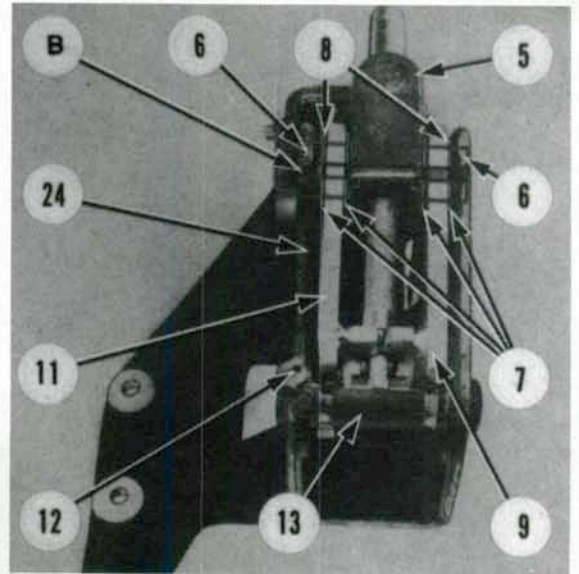
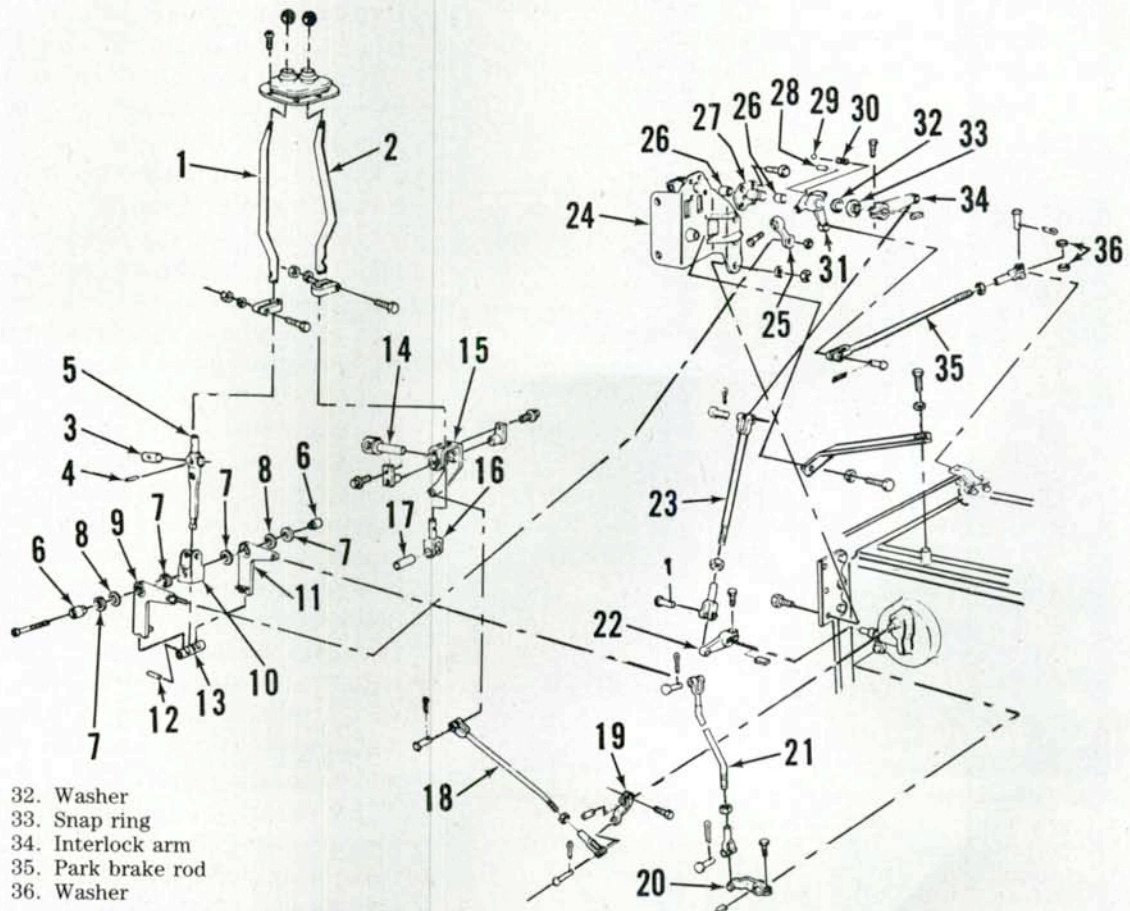

Fig. 201—View of assembled shift mechanism. Refer to Fig. 200 for legend.
Fig. 200—Exploded view of transmission shift linkage used on all models.
**149.** Refer to Fig. 200 for exploded view of transmission shift levers and linkage. To remove shift linkage, slide boot up shift levers (1 and 2), loosen clamp bolts and detach shift levers. Disconnect parking brake rod (35), interlock control rod (23), gearshift control rod (18) and high-low control rod (21). Unbolt and remove shift bracket (24) assembly.
To reassemble, reverse the disassembly procedure while observing the following special instructions. Use a dry lubricant, such as powdered graphite or molybdenum disulfide, on pivot points. Use of oil or grease will cause an accumulation of dirt resulting in rapid wear of components. Be sure that notch on gearshift bellcrank yoke (16—Fig. 200) faces forward. Assemble high-low bellcrank (11—Fig. 201) and parking brake bellcrank (9) with shims (8) and washers (7) on high-low selector lever (5), making sure that notch on high-low selector lever faces rearward. Place the bellcrank assembly in the main support, install bellcrank trunnions (6) and tighten trunnion retaining bolt (B) to a torque of 12 ft.-lbs. (16 N·m). Measure end play of bellcranks (9 and 11); if end play exceeds 0.009 inch (0.23 mm), add shims (8) as necessary to obtain end play of 0.000-0.009 inch (0.00-0.23 mm). Assemble detent spring (30—Fig. 200) and ball (29), park bellcrank (31) and connector link (25). Loosen cap screws retaining support pin (27), then rotate park bellcrank and support plate counterclockwise until foot of parking brake bellcrank (9) is cen-
**150. SHIFT LINKAGE ADJUSTMENT.** Disconnect high-low shift rod (21—Fig. 200) from shift arm (20) and place shift arm in neutral. Adjust length of shift rod so high-low bellcrank (11) is centered in interlock pin (13) when the shift rod is connected to shift arm.